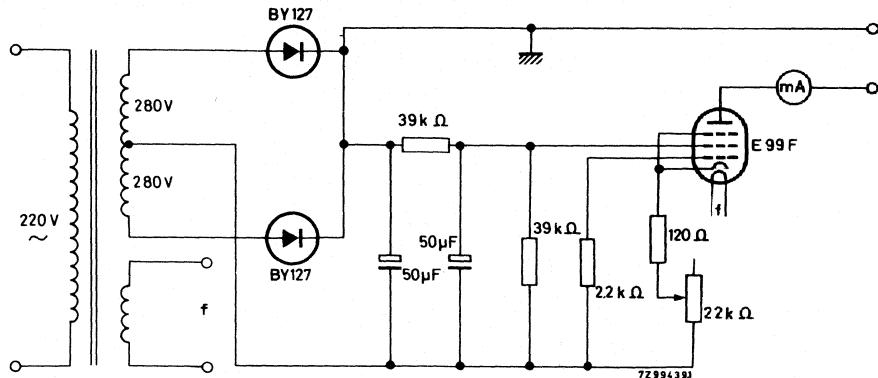

Fig. 9
A d.c. current source which supplies a constant direct current (I) of e.g. 1 mA, is connected to the pins a and b of the potentiometer; for the diagram of the d.c. current source, see Fig. 9. The d.c. voltage (V) resulting from the contact resistance (R_c) and the d.c. current is measured between the pins b and c ($V = I \cdot R_c$).